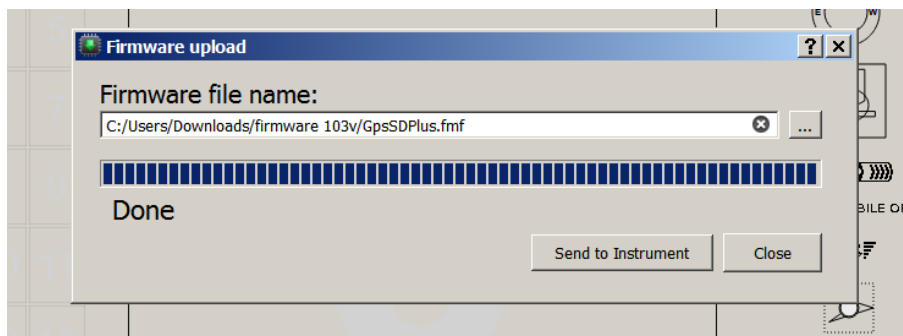

Figure 8.2: Firmware Update Done
6. When the process is finish the application shows a message saying *complete* (see Figure 8.2). Disconnect the USB cable and the GPS will start to work.